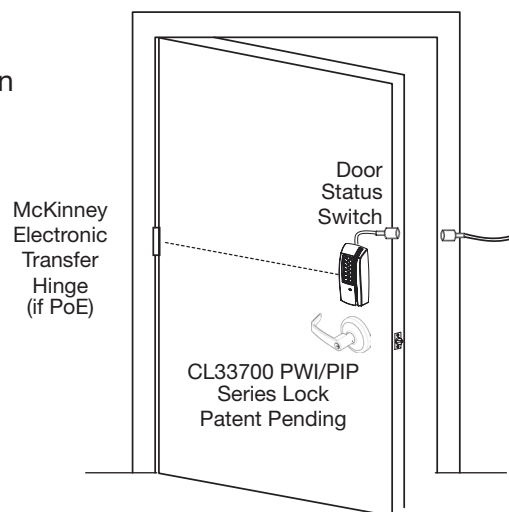

Fig. 5a
- a. Drill 3/4" hole in frame for switch (Fig. 5a and 5b).